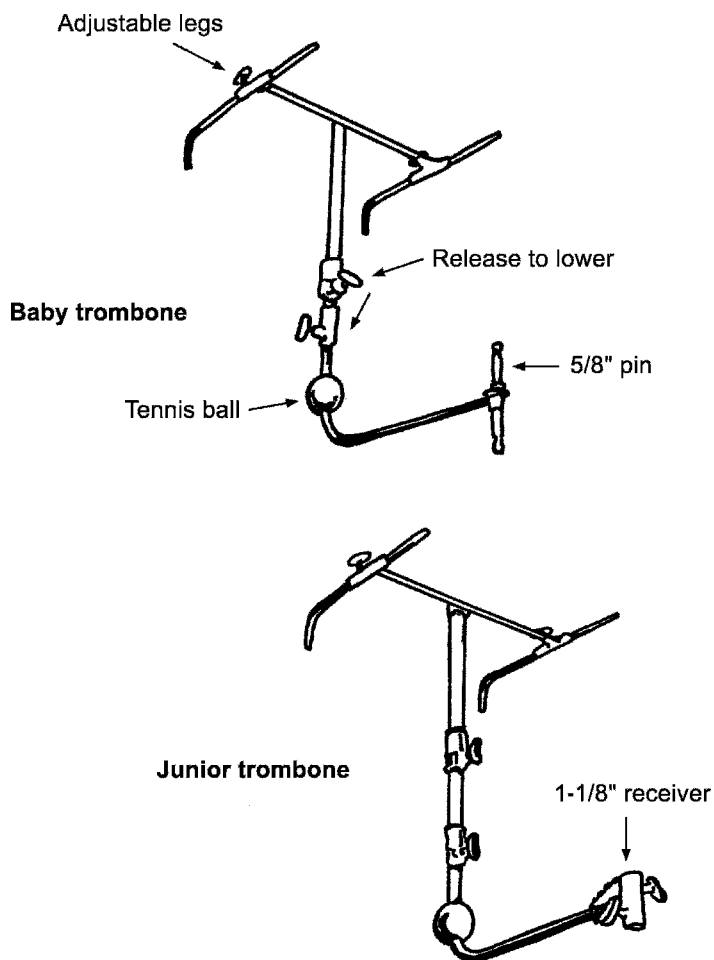

Figure 2.71 Trombones.
1. Trombones (Figure 2.71) are named for the way in which they bend or telescope.